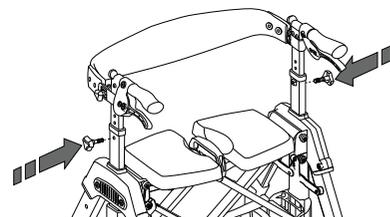

FIGURE 3
3. Handle height adjusts to 31"-38.25". Unscrew knobs, adjust handles to desired height, align holes and retighten knobs as shown in FIGURE 3.